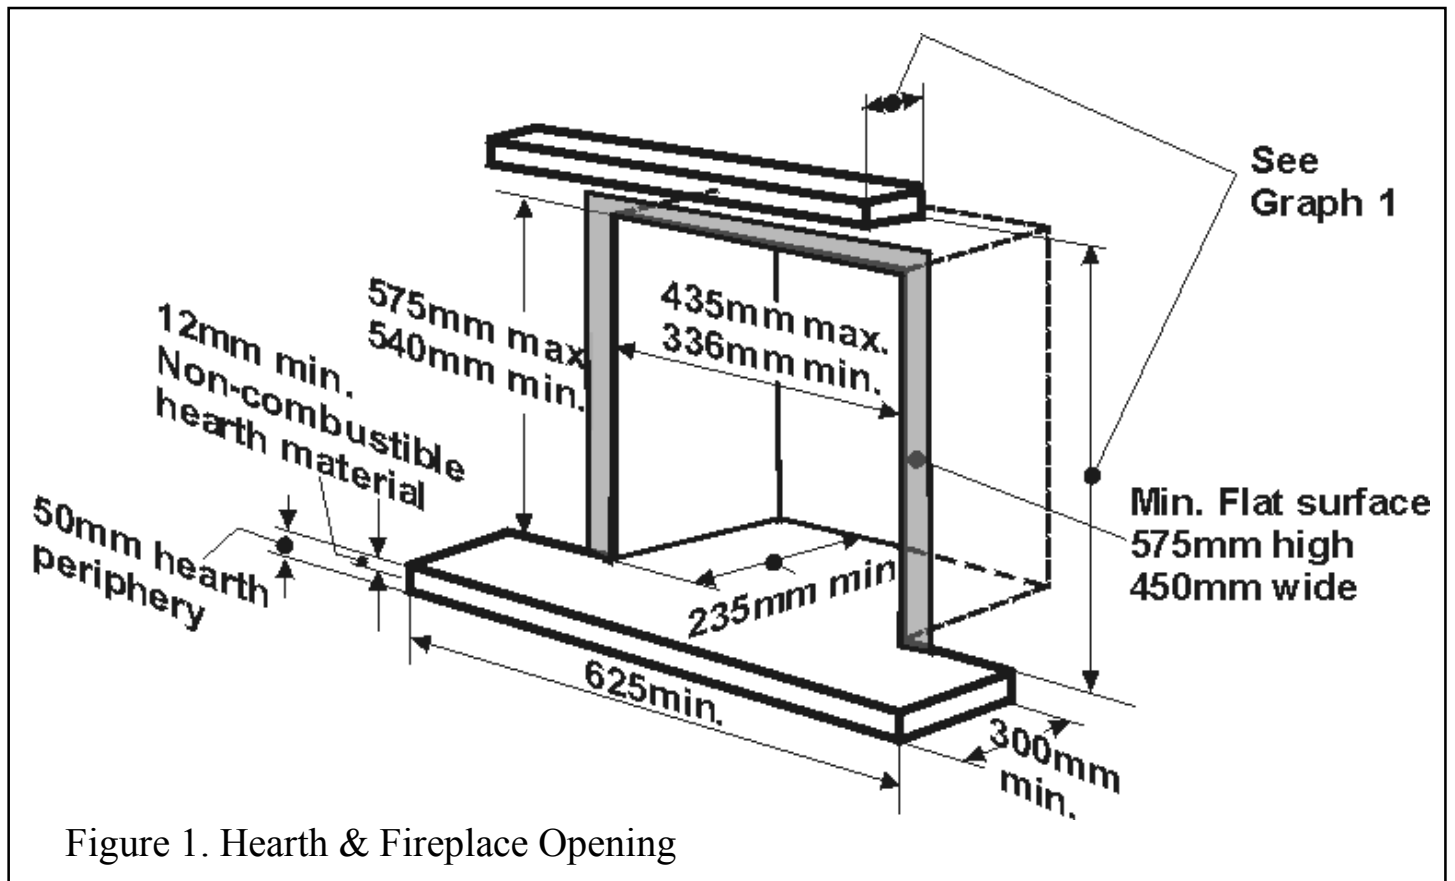
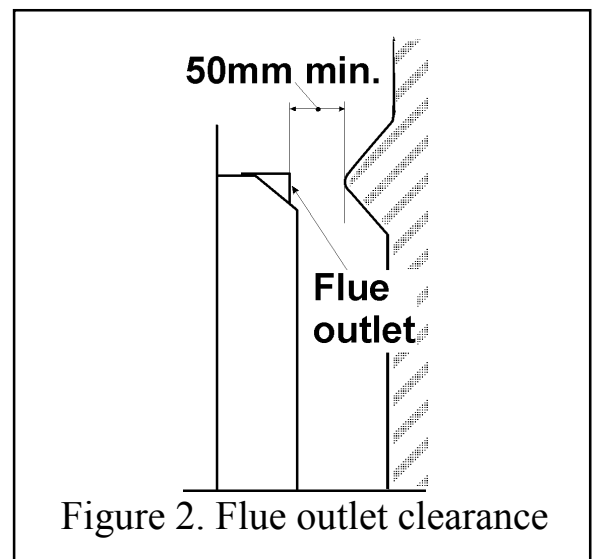

Figure 1. Hearth & Fireplace Opening
Figure 2. Flue outlet clearance
4.8.1 To a fireplace complying with BS1251 complete with surround and hearth as shown in figure 1. Removal of the fireback and sufficient material behind the fireback may be required to give the necessary debris catchment space. Alternatively, a spacer or surround may be used to provide the required depth. The free distance from the appliance flue outlet to a fireback knee or other projection in the fireplace must be at least 50mm (See figure 2).